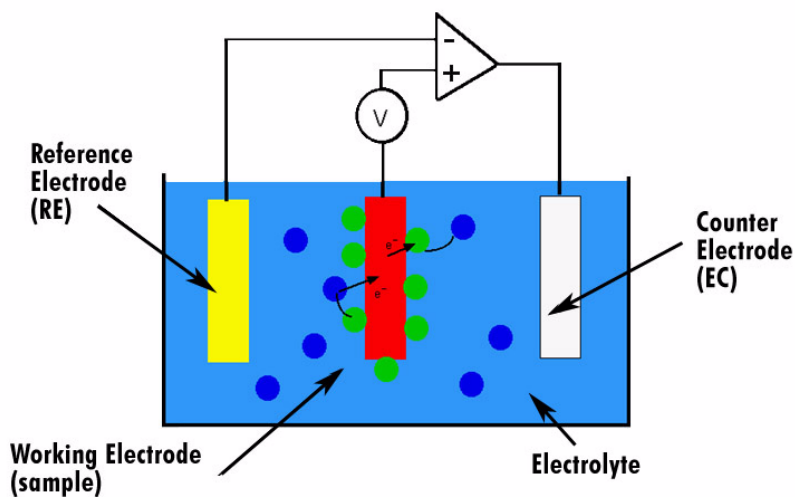
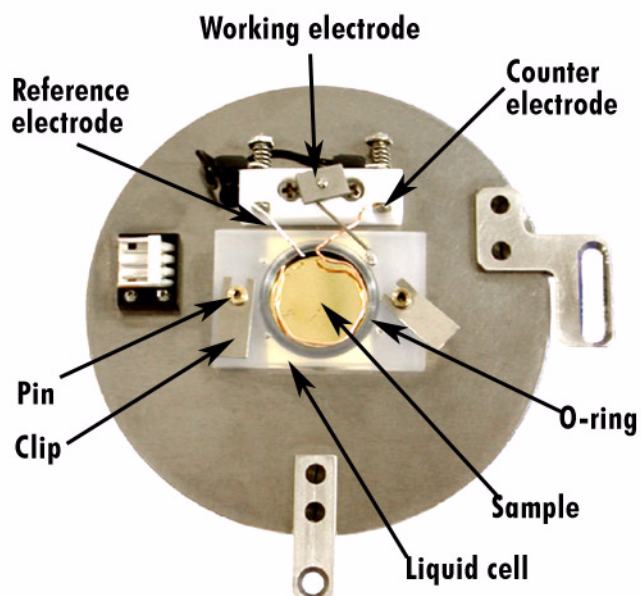

Figure 145 Electrochemistry experiment schematic
Figure 146 Electrochemistry experimental setup using liquid cell
Figure 145 shows a typical electrochemistry setup, while Figure 146 shows that same setup created with the 5500 SPM liquid cell. Note that
The liquid cell, described earlier in this manual, enables imaging in a liquid (Figure 145). The cell is 15 mm (0.59 in) in diameter and seals over the sample with an o-ring. The sample surface must be very flat and larger than the diameter of the cell to avoid leakage.
It is recommended that the assembly procedure be carried out in a laminar flow hood, glove box or other clean environment. The work surface should be well cleaned prior to assembling, and gloves should be worn to prevent contaminating the electrodes and liquid cell. Refer to Figure 146 for a view of the components described below.
- 8 Insert the counter and reference electrodes into the sample plate block (Figure 146). Push the spring-loaded clamp forward from behind, insert the electrode and release the clamp.